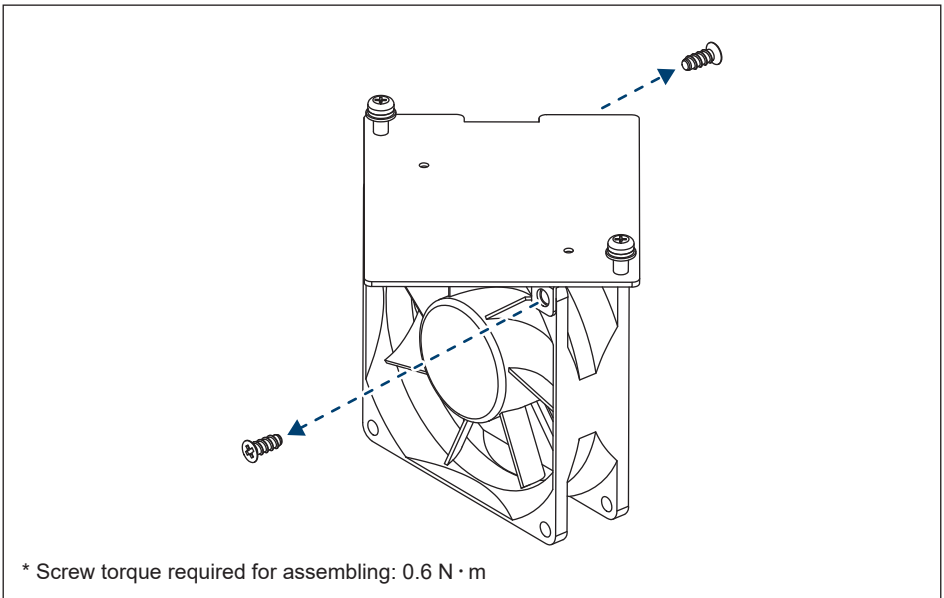

Figure 5-11: Replace with a new fan
- (4) Lift the entire fan assembly. (**Figure 5-11**)
- (5) Clean assembly or replace with a new fan.
- (6) Reassemble by using $0.8 \text{ N} \cdot \text{m}$ tightening torque.